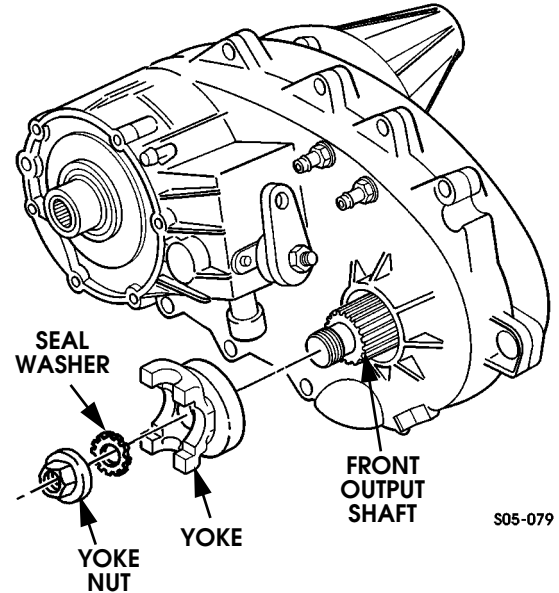

Figure 5-84: Front Yoke Removal/Installation
2. Remove front output shaft yoke (Figure 5-84). Remove yoke nut with suitable size socket and impact wrench. Then remove seal washer and yoke.